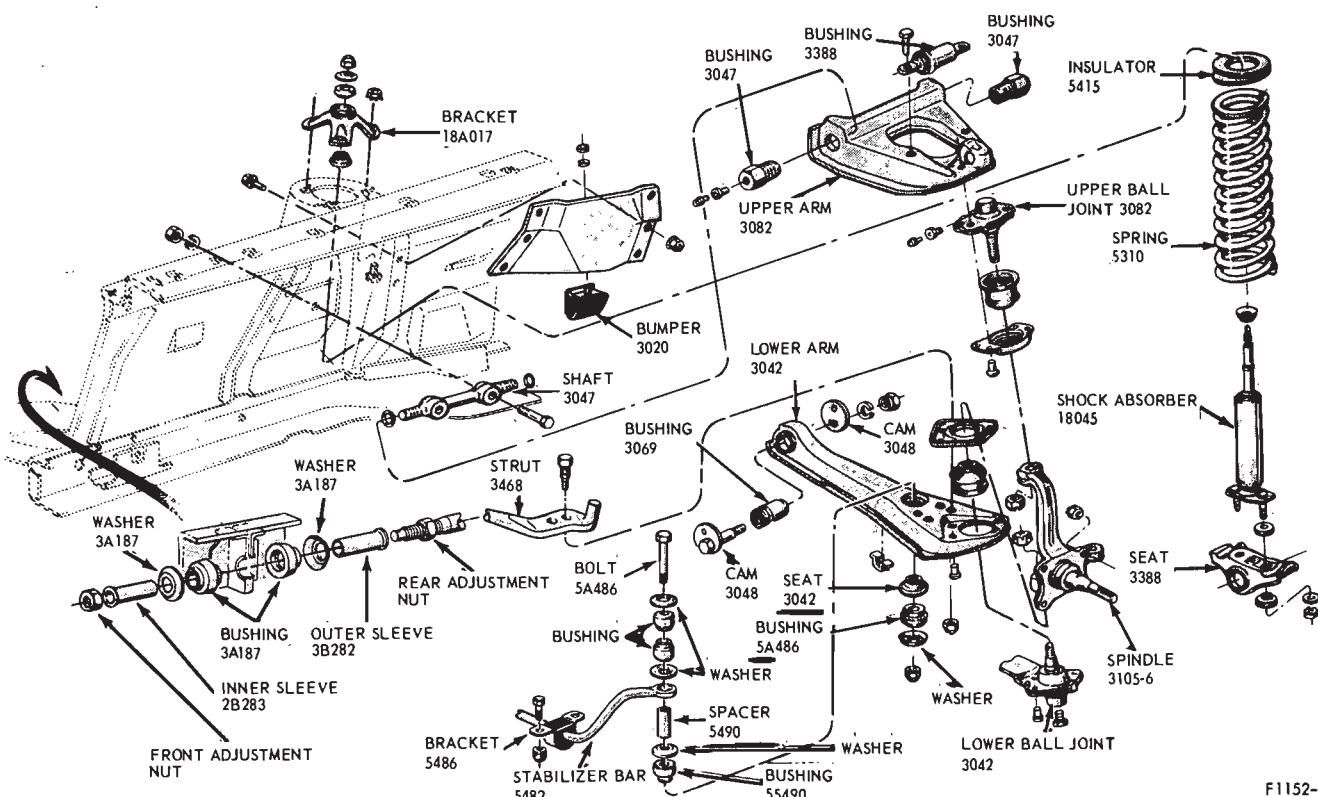

FIG. 14—Front Suspension Assembly
3. Remove the stabilizer bar and link attaching nut (Fig. 14). Disconnect the bar from the link, and remove the link bolt.
3. Install the stabilizer link bolt, washers, bushings and spacer. Connect the stabilizer bar to the link. Install the attaching nut and torque to specifications (Fig. 14).
1. Position the spindle on the lower ball joint stud and install the stud nut (Fig. 14).